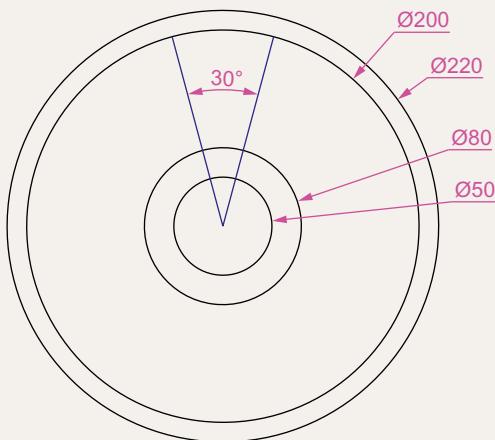
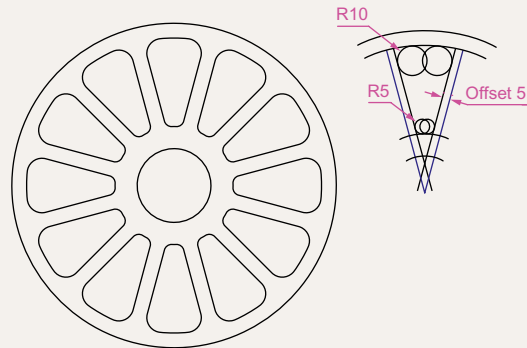

Fig. 5.49 Exercise 4 – circles and lines on which the exercise is based
Fig. 5.50 Exercise 4
4. Construct the circles and lines (Fig. 5.49). Using **Offset** and the **Ttr** prompt of the **Circle** tool followed by **Trim**, construct one of the outlines arrayed within the outer circle. Then, with **Polyline Edit** change the lines and arcs into a pline of width = 0.3. Finally array the outline 12 times around the centre of the circles (Fig. 5.50).